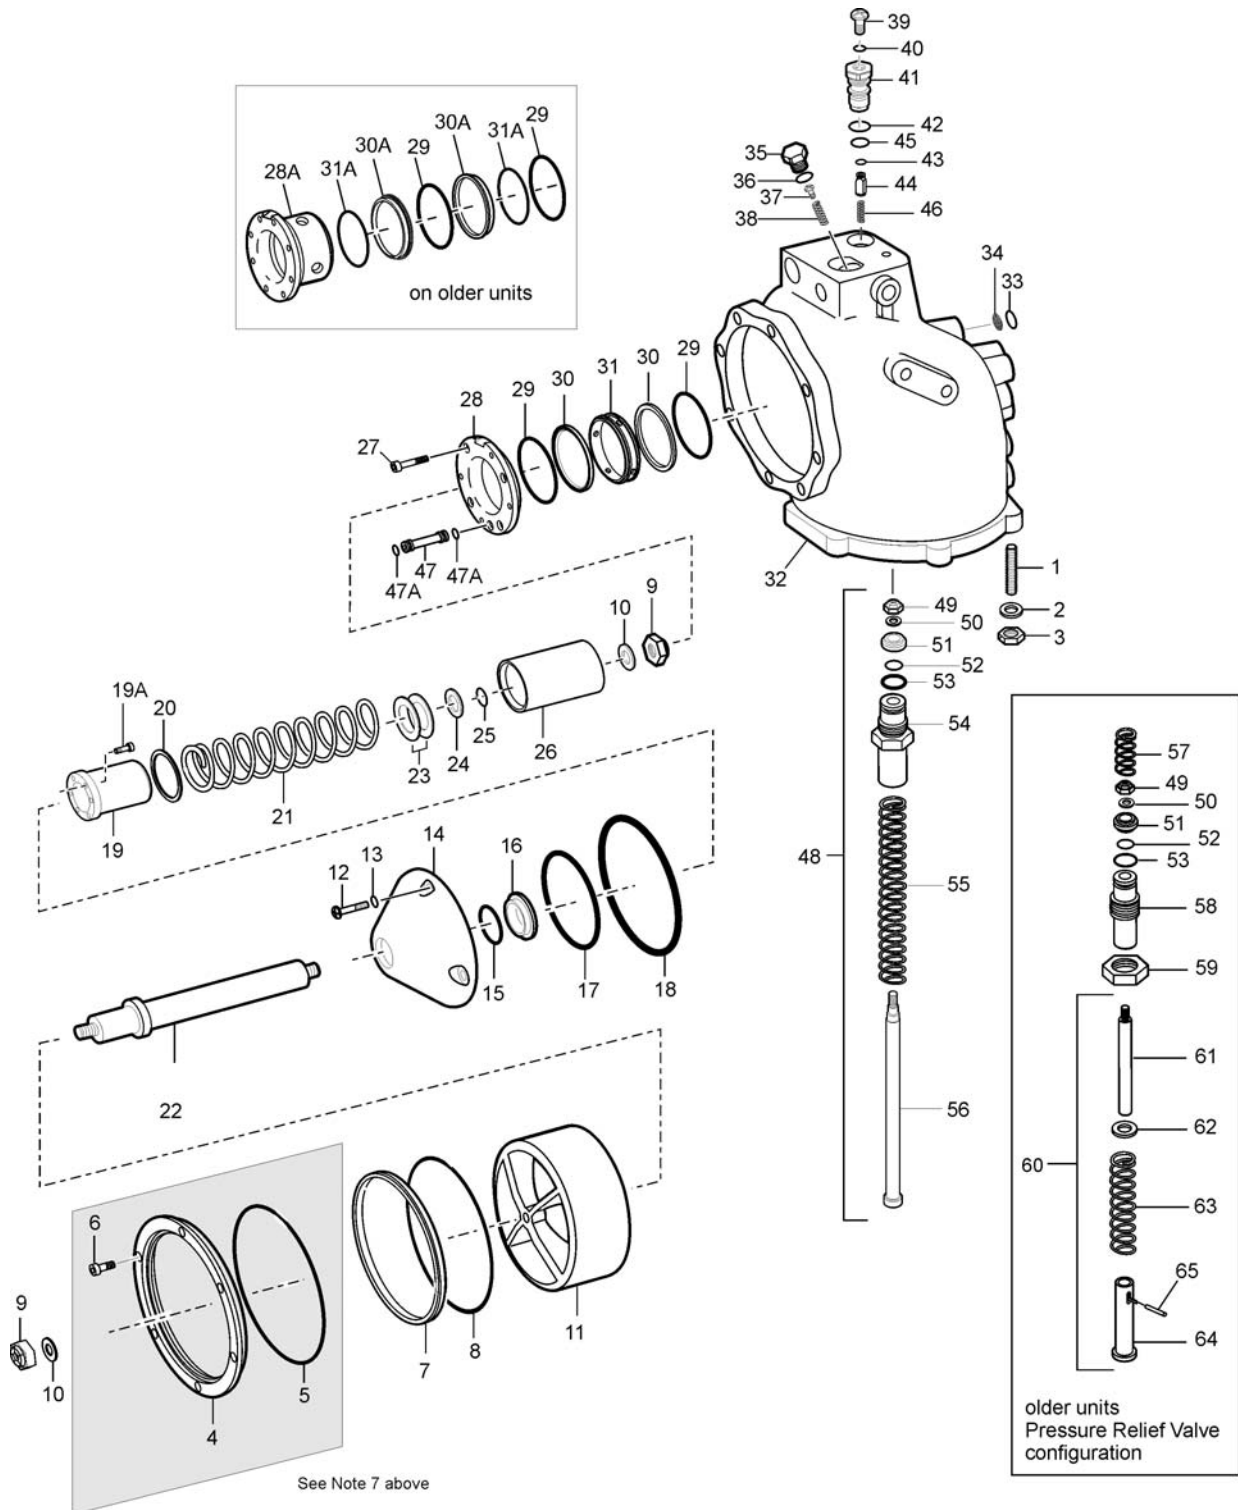

FIGURE 3
- Plug, item 1-26 and Gasket item 1-19 are normally installed in all couplers. Item 1-23, elbow is provided for those users with air operated hydrants for ease of connection of the air system to the quick disconnect on the hydrant valve. Discard the parts not needed for your system.
- Early units utilized the Seal Housing (3-4), O-Ring (3-5) & Screws (3-6) (refer to shaded area of Figure 3). These items are no longer present on new units and are considered unnecessary to the overall performance of the unit.